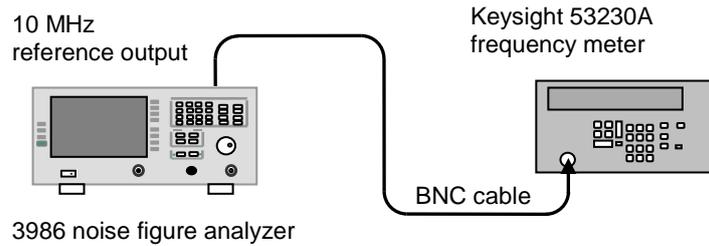

Figure 8.1 Test Block Diagram of Reference Frequency Accuracy
**Step 1.** Connect the test instrument as shown in Figure 8.1 and warm it up for 30min.